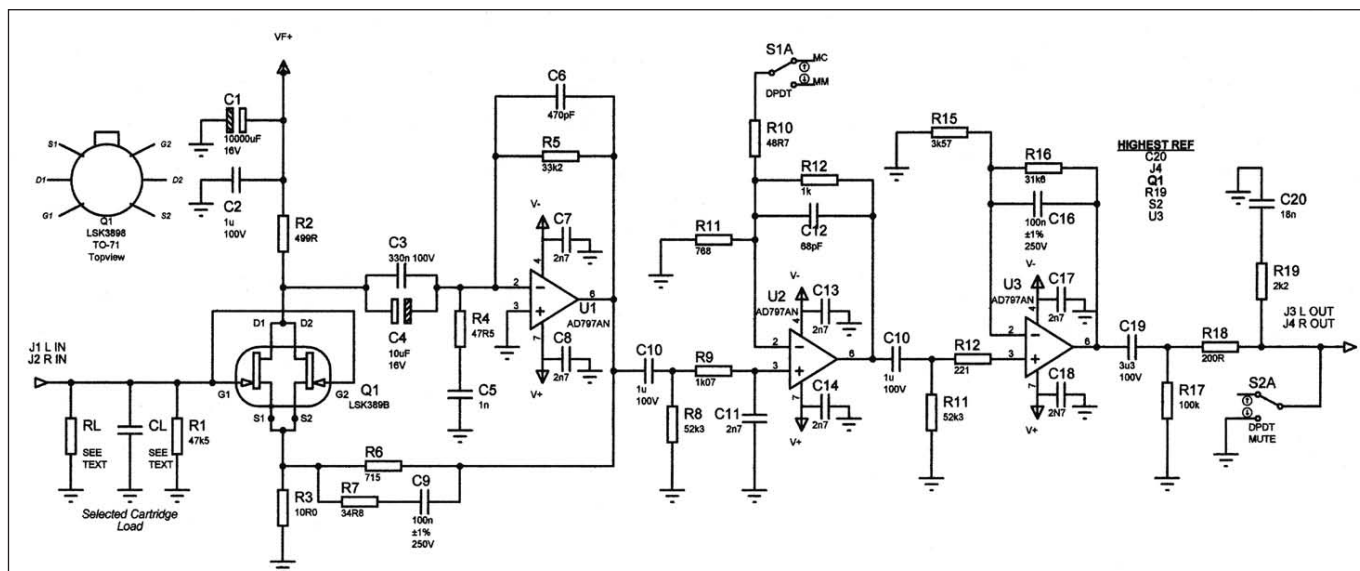

FIGURE 2: Phono preamp schematic (one channel shown).
For higher output cartridges, or for any reason, you can increase the 1kHz maximum input to 92mV RMS (130mV peak) by reducing the second stage (U2) gain from 7.2dB to 0dB. To do this, simply delete R11 in **Fig. 2**. (This will decrease the MC gain by only 0.5dB.) The maximum input at 20kHz (MM) will then be 510mV RMS (721mV peak). Doing this results in an overall preamp MM gain at 1kHz of 36.7dB. Output with 5mV RMS input is then 342mV RMS.
The op amps, with their 130dB power supply rejection ratio (PSRR), couldn't care less what kind of DC you feed them, provided that their HF bypass caps (C7, 8, 13, 14, 17, 18 in **Fig. 2**) are closely grounded. So the simple RC ripple filtering of (**Fig. 3**) R1, C1, R3, R4, C2, C3 provides low enough 120Hz ripple (0.2mV RMS) such that the op amps attenuate it to 63 *pico* volts. They're fed the V^+ and V^- voltages.
The circuitry with Q1 and D3 provides excellent rejection of line fluctuations and ripple. However, I observed some LF noise from the D3 zener adding to the preamp's noise floor, from about 5-40Hz. This was fixed by the filtering of R7 and the 10,000 μ F cap (C1 in **Fig. 2**), forming a 0.8Hz low-pass rolloff.
With this ± 15 V supply and the "stock" U2 gain of **Fig. 2**, the preamp's maximum input and output levels will increase by about 3dB.
The specified switches have a nice feature: By lifting and rotating the handle, you can align the tabs to lock the switch position selected in place. You wouldn’t want S1 inadvertently thrown to “MC” with an MM cartridge, producing a +20dB blast! The switches provide excellent chassis grounding of the board. You should connect the ground end of R3 (Fig. 2) to a ground lug on the input jack.
pacitance (without CL in Fig. 2) is only 21pF, because the Q1 drains see the “virtual ground” of U1 (no Miller effect), and also because of the “bootstrapping” of NFB to the Q1 sources. Mr. Futrell shows how the right phono cables can provide optimum capacitance.